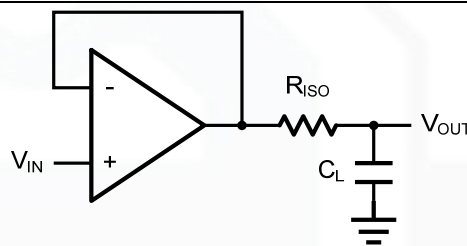
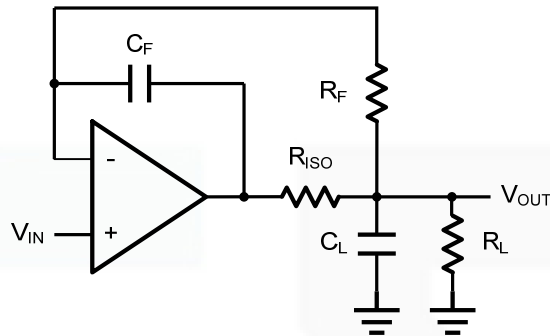

Figure 2. Indirectly Driving a Capacitive Load Using Isolation Resistor
Figure 3. Indirectly Driving a Capacitive Load with DC Accuracy
The LM321H/358H/324H family is optimized for bandwidth and speed, not for driving capacitive loads. Output capacitance will create a pole in the amplifier's feedback path, leading to excessive peaking and potential oscillation. If dealing with load capacitance is a requirement of the application, the two strategies to consider are (1) using a small resistor in series with the amplifier's output and the load capacitance and (2) reducing the bandwidth of the amplifier's feedback loop by increasing the overall noise gain. Figure 2. shows a unity gain follower using the series resistor strategy. The resistor isolates the output from the capacitance and, more importantly, creates a zero in the feedback path that compensates for the pole created by the output capacitance.
The circuit in Figure 3 is an improvement to the one in Figure 2. R_F provides the DC accuracy by feed-forward the V_{IN} to R_L . C_F and R_{ISO} serve to counteract the loss of phase margin by feeding the high frequency component of the output signal back to the amplifier's inverting input, thereby preserving the phase margin in the overall feedback loop. Capacitive drive can be increased by increasing the value of C_F . This in turn will slow down the pulse response.